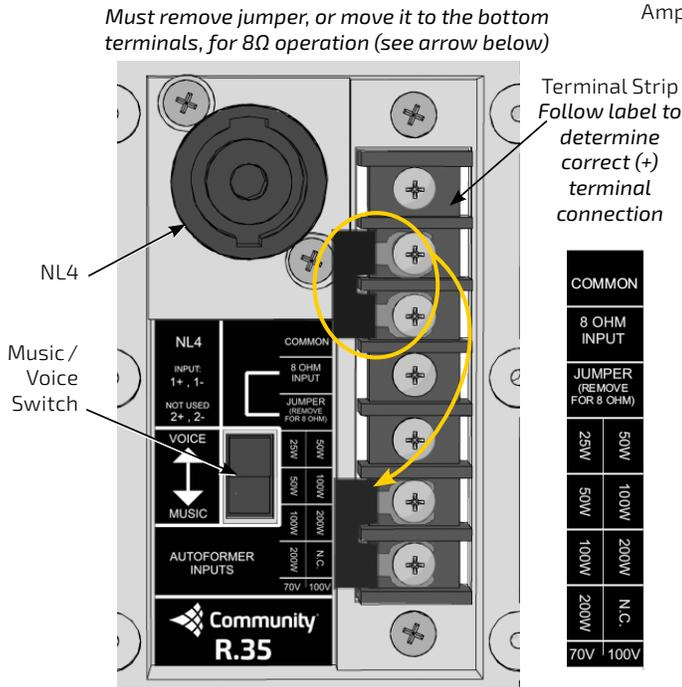

Figure 5. R.35 input panel
6. Insert the cable through the gland nut and weather cover and wire the unit for your system voltage. Refer to the label - see **Figure 5**. There is a preinstalled jumper that should be left in the marked position for 70/100V use, or moved to the bottom terminals for 8Ω operation. *Failure to do so can result in damage to the loudspeaker and/or amplifier.* Set the Music/Voice switch to the desired position. *The NL4 connection can only be used for low impedance 8Ω operation.*